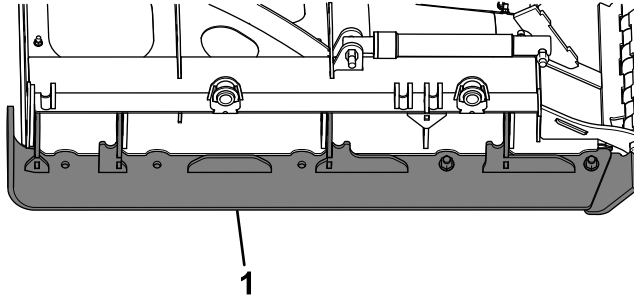

Figure 55
4. Line up the new trip bar with the pivot tabs on the bottom channel (Figure 55).